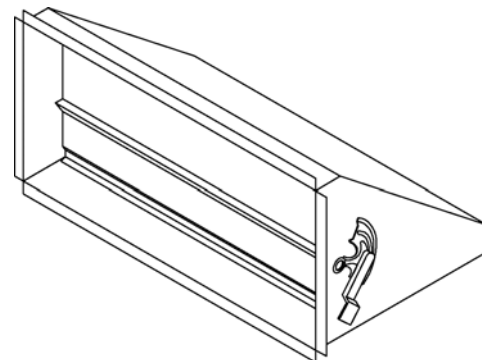
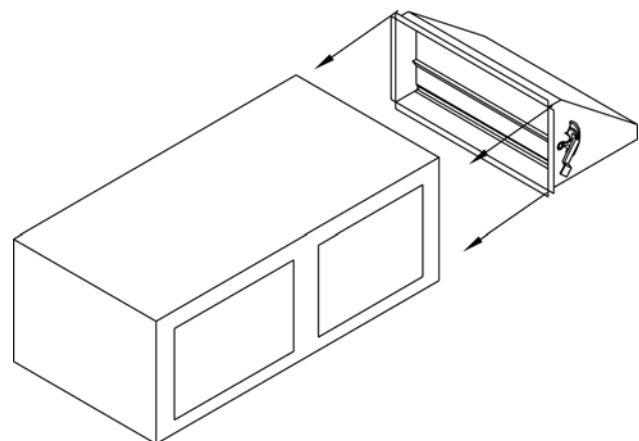

Figure 6. Manual Air Damper Assembly
Figure 7. Manual Air Damper Attached to RAB Unit
The manual air damper is designed to replace the end return air access panel of the rooftop air handler unit. Figure 6 shows a manual air damper assembly and Figure 7 shows the placement of the manual air damper.
1. Remove end return air panel and discard. See Figure 7.